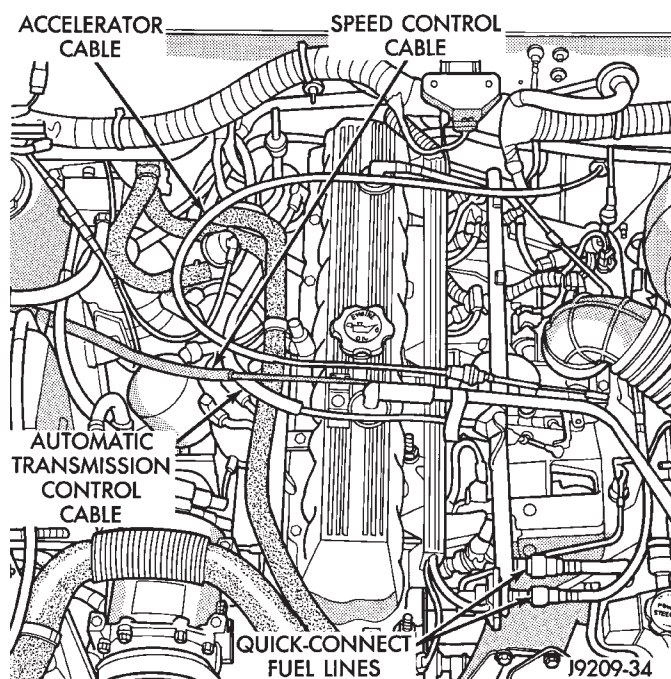

Fig. 10 Accelerator Cable, Vehicle Speed Control Cable, Automatic Transmission Control Cable & Quick-Connect Fuel Lines
(13) Disconnect the throttle linkages (Fig. 10).
(14) Disconnect the vehicle speed control cable (if equipped)—(Fig. 10).
(15) Disconnect the line pressure cable (if equipped with automatic transmission).
(16) Disconnect injection system wire harness connector at each injector. Mark the wires for proper installation.
(17) Disconnect the distributor electrical connection and the oil pressure switch connector.
(18) Disconnect the quick-connect fuel lines at the fuel rail and return line by squeezing the two retaining tabs against the fuel tube (Fig. 10). Pull the fuel tube and retainer from the quick-connect fitting (refer to Group 14, Fuel System for the proper procedure).